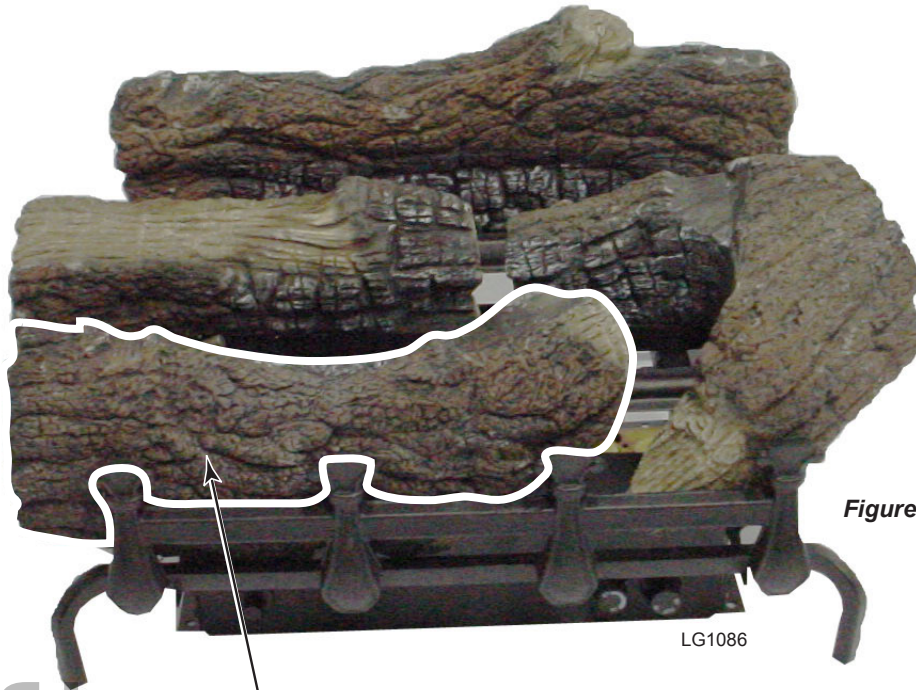

Figure 18
- 4. Place Front Log (#4) in between burner and grate so that notched areas fit between grate supports. *Figure 18*